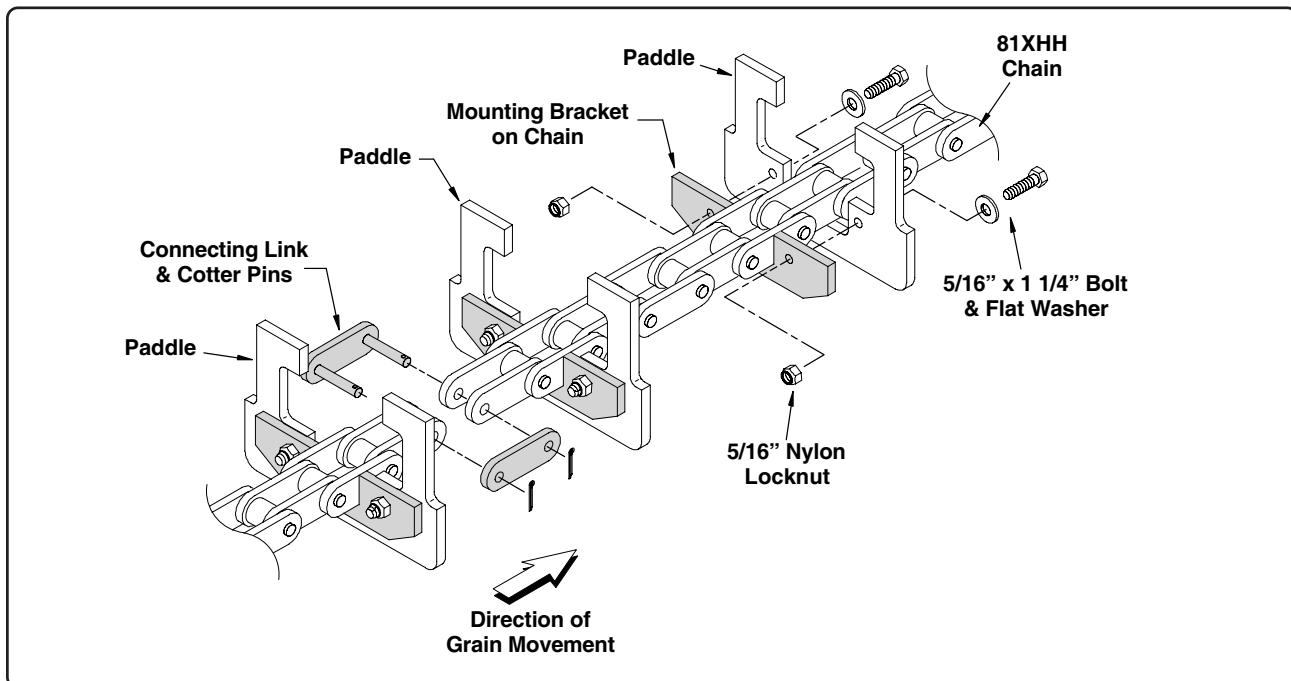

Fig. 22
2. Fasten the paddles to the attachment brackets welded to the chain (See Fig 22). Secure paddles using four (2) 5/16" x 1 1/4" bolts, (2) flat washers and (2) nylon locknuts (bolts & flat washers on paddle side).